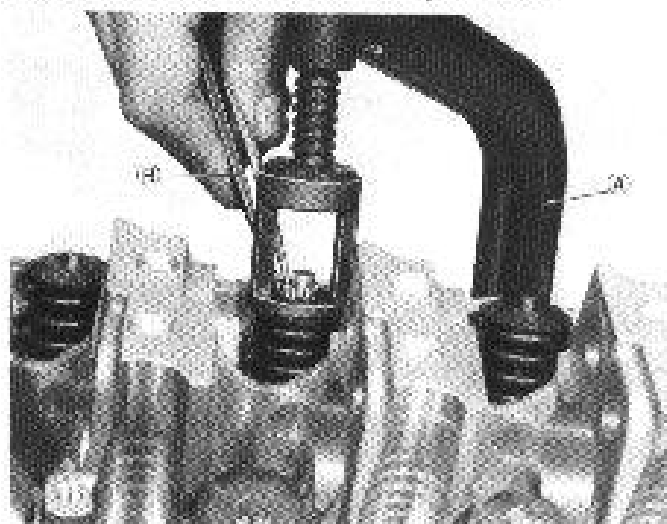

Fig. 3-122 (B) Forceps (09916-84510)
To fit valve cotter pins to the groove provided on the end portion of each valve stem, be sure to use the valve lifter ⑧ (09916-14510): compress the valve spring with this lifter and mount the cotter pieces, as shown in Fig. 3-122.